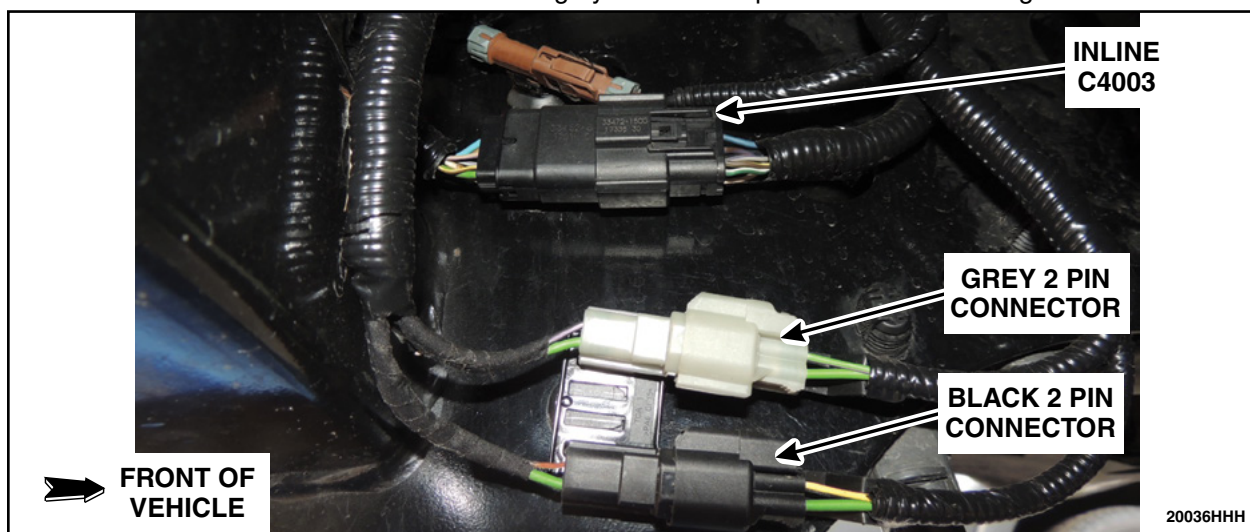

FIGURE 65
89. Disconnect the black inline C4003 and the grey and black 2 pin connectors. See Figure 65.